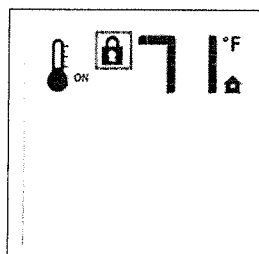

Figure 7.20 Lock ON.
- To activate the Lock, press the Mode key and UP Key at the same time. Fig. 7.20.